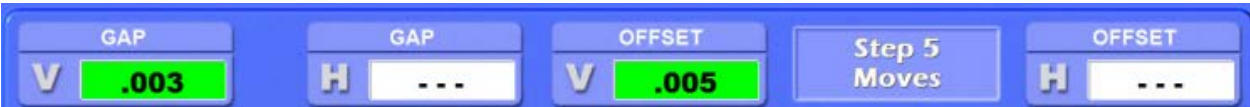

Figure 58 – Step 5: Vertical Machine Data Displays for T-1280/T-1285 Target at 12:00
- If the laser/target are at 12:00, the V-axis data displays show the data for the 12:00-6:00 direction and the H-axis display is blank (see **Figure 58**).